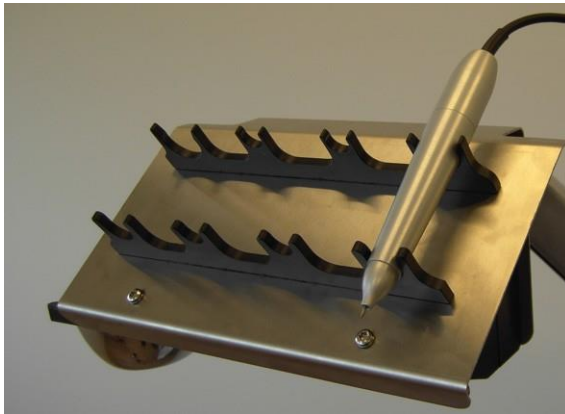

Figure 3-76. Placing the Incision Handpiece on the Handpiece Holder
10. Place the incision handpiece on the handpiece holder, as shown in Figure 3-76.